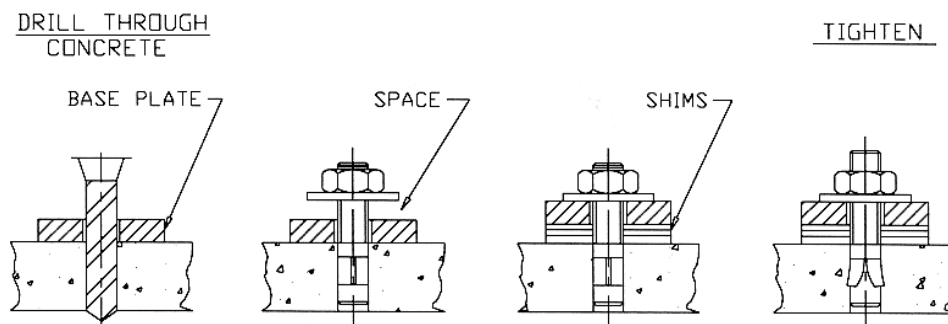

Figure 9 - Anchor Installation
5. After proper levels are attained for both the raised and lowered positions, use a rotary hammer drill and a 5/8" concrete drill bit to drill through the floor in the four (4) anchor bolt location holes on each of the base frames. Make sure that the 5/8" concrete drill is in good condition. Refer to Figure 9.